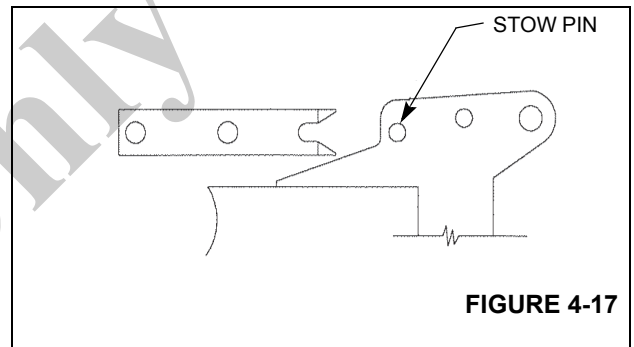

FIGURE 4-17
7. Observe the horizontal alignment of the slot in the ear assemblies and the stow pin in the jib. Horizontal adjustment of the stow ears is provided by oversize bolt holes in the stow ear. Move the ears in or out to achieve proper alignment. Position the top ear so it holds the top of the jib in toward the boom and the bottom ear so that it holds the bottom of the jib away from the bottom of the boom, see Figure 4-17.